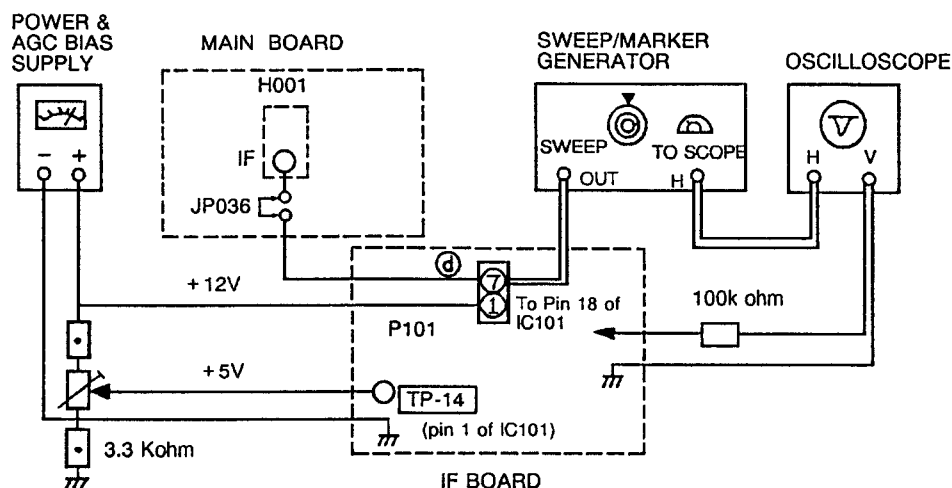

Figure 10. Picture IF Sweep Alignment
SWEEP/MARKER GENERATOR..... Connect to the point ④ as shown in Figure 10 on the IF Board.
- GENERAL..... Refer to Figure 10 for test equipment connection.
- PRELIMINARY STEPS ..... 1. Disconnect the jumper wire 036 (see Figure 10.) on the component side of the MAIN Board.
- SWEEP/MARKER GENERATOR..... Connect to the point ④ as shown in Figure 10 on the IF Board.